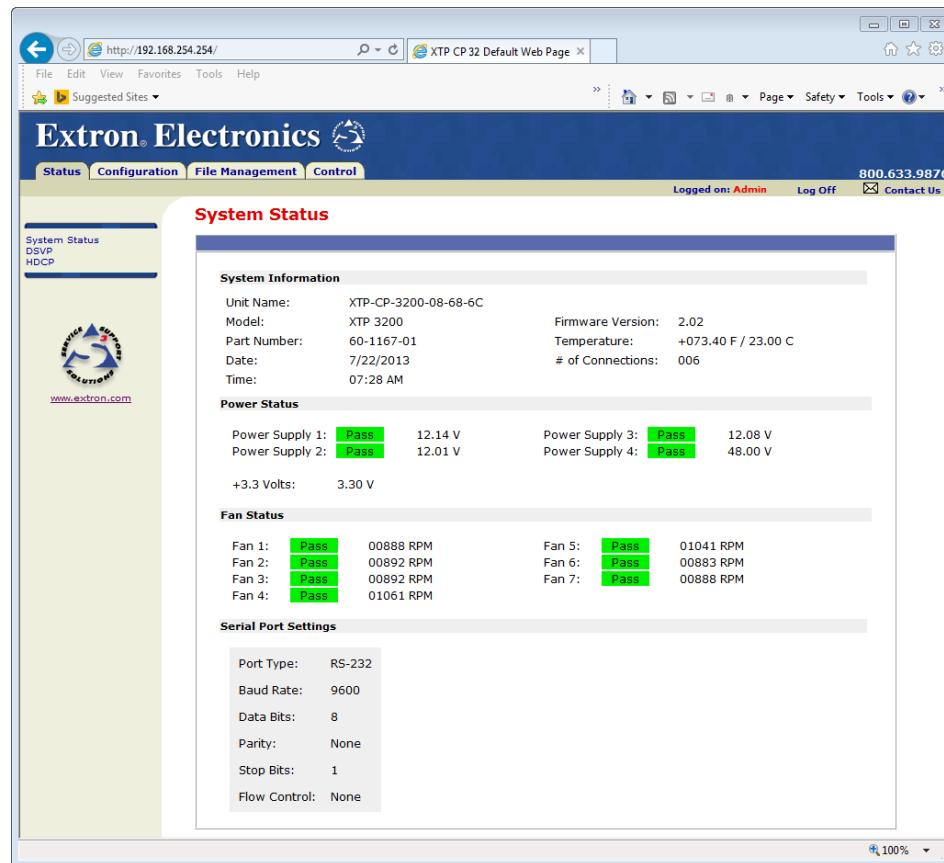

Figure 26. System Status Page
5. Click the **OK** button (②).
- If neither of the above conditions is true, the matrix switcher downloads the factory-installed default startup page, "nortxe_index.html" (see figure 26 on the next page), also known as the **System Status** page.
The **System Status** page (see figure 26) provides an overall view of the status of the matrix switcher, including individual voltages, fan operation, and the serial port status. The **System Status** page is the default page that the matrix switcher downloads when you connect to the matrix switcher. Access the **System Status** page from other pages by clicking the **Status** tab.